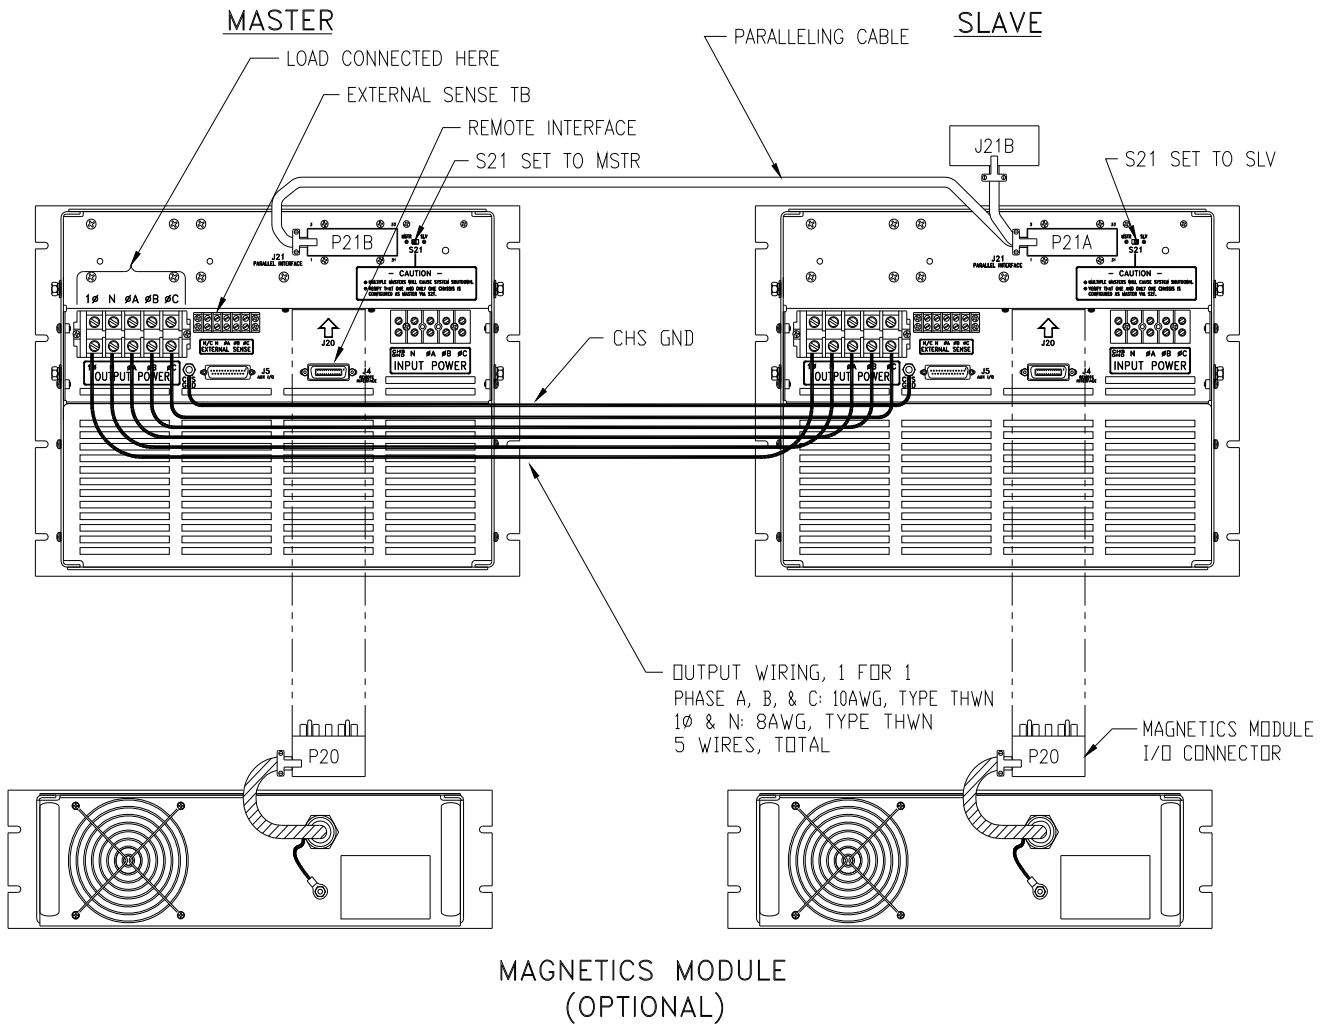

FIGURE 3.4.5.1 MODELS 140,160, 345 & 360-AMX M5283 TWO CHASSIS INTERCONNECTION
Refer to Figure 3.4.5.1 for the connections required to parallel the two power sources. All paralleled units must have the paralleling option installed.
6. If present, connect each Magnetics Module to its Power Source at (P20) as shown in Figure 3.4.5.1.